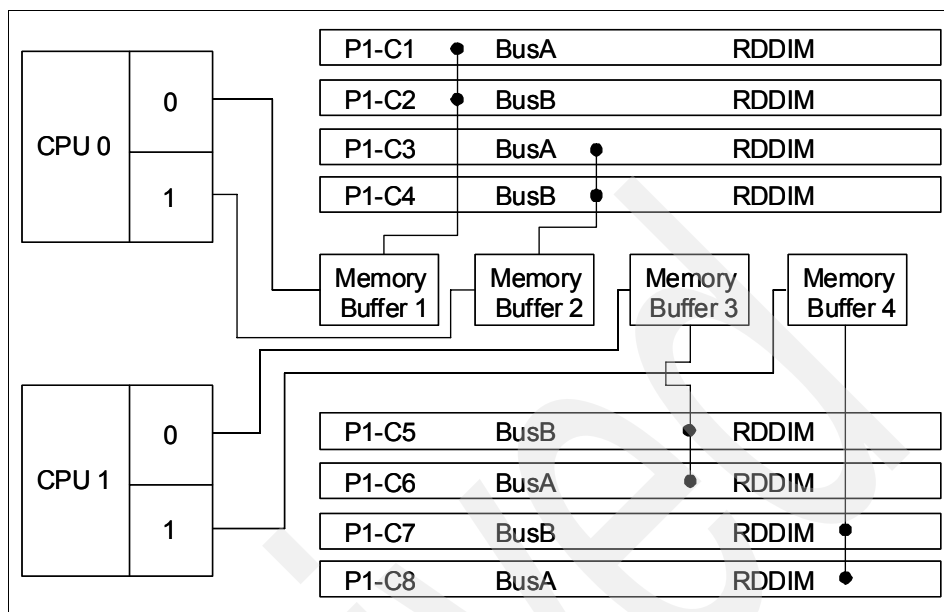

Figure 3-2 IBM BladeCenter JS23 Express memory wiring layout (Base planar - P1)
Figure 3-2 on page 46 show the memory wiring layout for the base planar on an IBM BladeCenter JS23 Express. This same wiring layout is used in the MPE planar of an IBM BladeCenter JS43 Express.
- ▶ DIMMs are to be installed in pairs. First filling BusA then BusB of each planar, as shown in Figure 3-2: